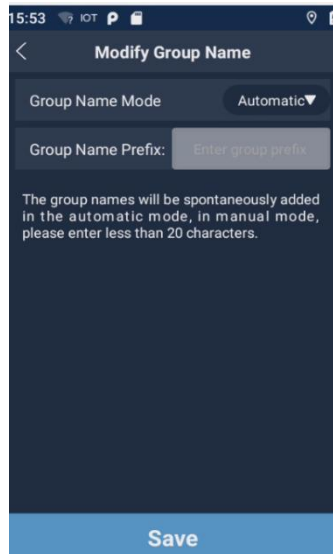

Figure 6-3-1-2: Group Name Editing Interface
(3) Name Display Area:
b) Group Name: A text box displaying the measurement point name. By default, the group name is automatically generated as the year, month, and day of the measurement plus a 3-digit serial number (e.g., 20210113000). A digit is automatically added after each measurement, and this change applies to all modules simultaneously. If the serial number reaches the 3-digit limit, a new digit is automatically appended. Click the group name control to edit the group name. The editing page is shown in Figure 6-3-1-2, with two modes available: automatic group naming and manual group naming:
① When “Automatic” mode is selected, the “Group Name Prefix” field becomes available. By default, the group name prefix is empty. The group name prefix input box only allows Chinese characters, letters, and numbers up to 20 characters in length. After saving, the group name will be “Prefix + Group Name.”
② When “Manual” is selected, the group name can be modified. The group name input field only allows Chinese characters, letters, and numbers up to 20 characters in length. After saving, the group name will be the manually set text and will remain unchanged throughout the measurement process.